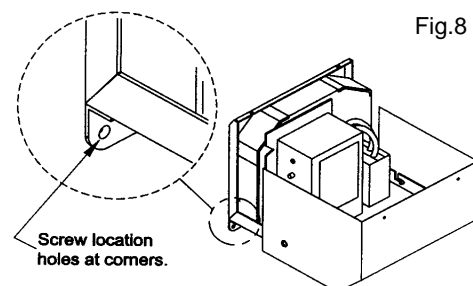

Fig.8
SEE EXPLODED VIEW (FIG 8) WHEN ITEM NUMBERS ARE REFERRED TO:
- Connect the fan to the adjustable flue section and fix to the wall as per Fig.8.